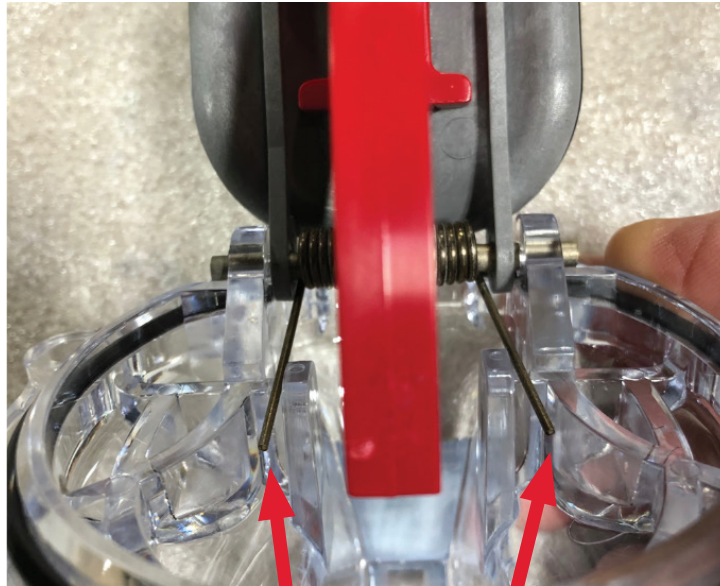

Fig 1.4
1. Release each of the two spring legs from the location tabs - this will remove the tension from the spring. See Fig.1.4 above.